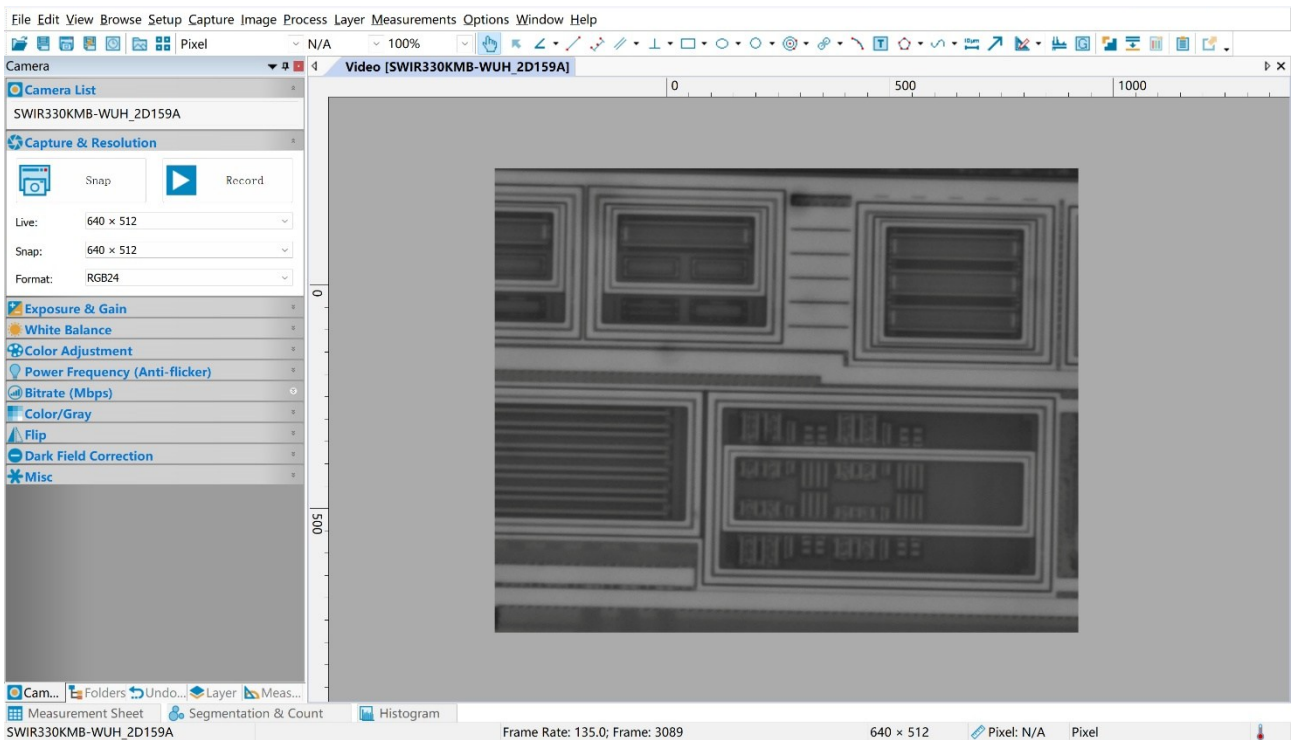

Figure 9 EHDView and EHD330KMB-WUH Camera in WiFi AP Mode
- Start EHDView/EHDLite software or EHDView App and check the configuration. Normally, the active SWIR330KMB-WUHcameras will be automatically recognized. The live image of each camera is shown in Figure 9. For the display, the Camera List tool window is used in EHDView/EHDLite software, and the Camera Thumbnail is used in EHDView App.